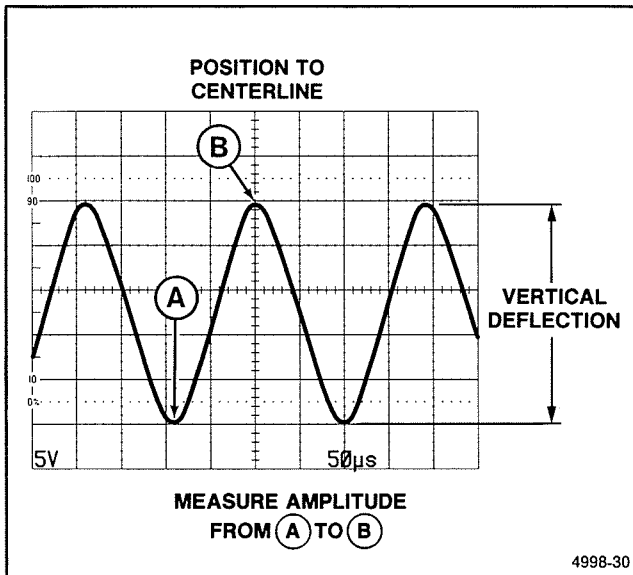

Figure 6-17. Peak-to-peak waveform voltage.
6. Vertically position the displayed waveform so that the negative peak of the waveform coincides with one of the horizontal graticule lines (see Figure 6-17, Point A).
7. Horizontally position the display so that one of the positive peaks coincides with the center vertical graticule line (see Figure 6-17, Point B).
8. Measure the vertical deflection from peak to peak (see Figure 6-17, Point A to Point B).
**EXAMPLE:** The measured peak-to-peak vertical deflection is 5 divisions (see Figure 6-17) with a VOLTS/DIV switch setting of 0.5 V, using a 10X probe.